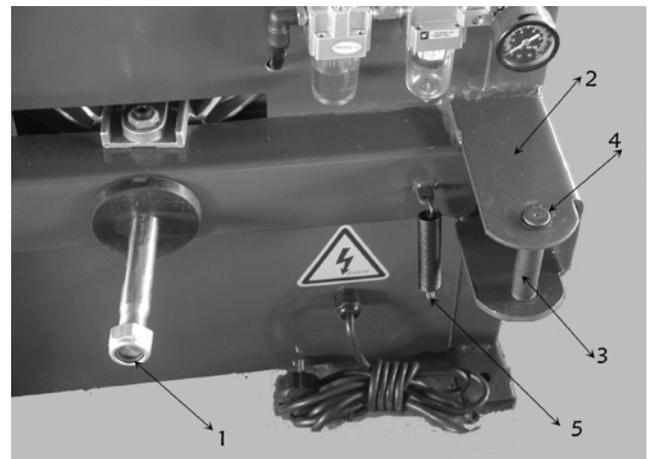

Fig 4-5
**4.2.8 Unscrew the lock nut (1) at the front end of the bead breaker cylinder piston rod. Use the spring tongs to remove the retaining ring on the bead breaker arm pin shaft. Remove the pin shaft (3) and hang the spring (5) as shown in Fig 4-5.**